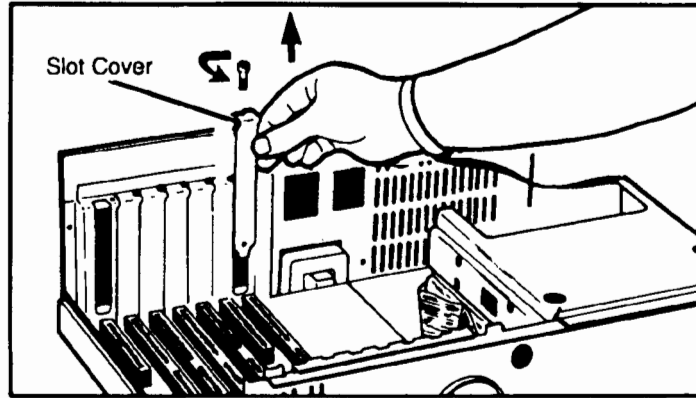

Figure 3-6. Removing the Slot Cover Screw
5. Remove the slot cover from the back of your computer by removing the screw which holds the slot cover in place. See figure 3-6.